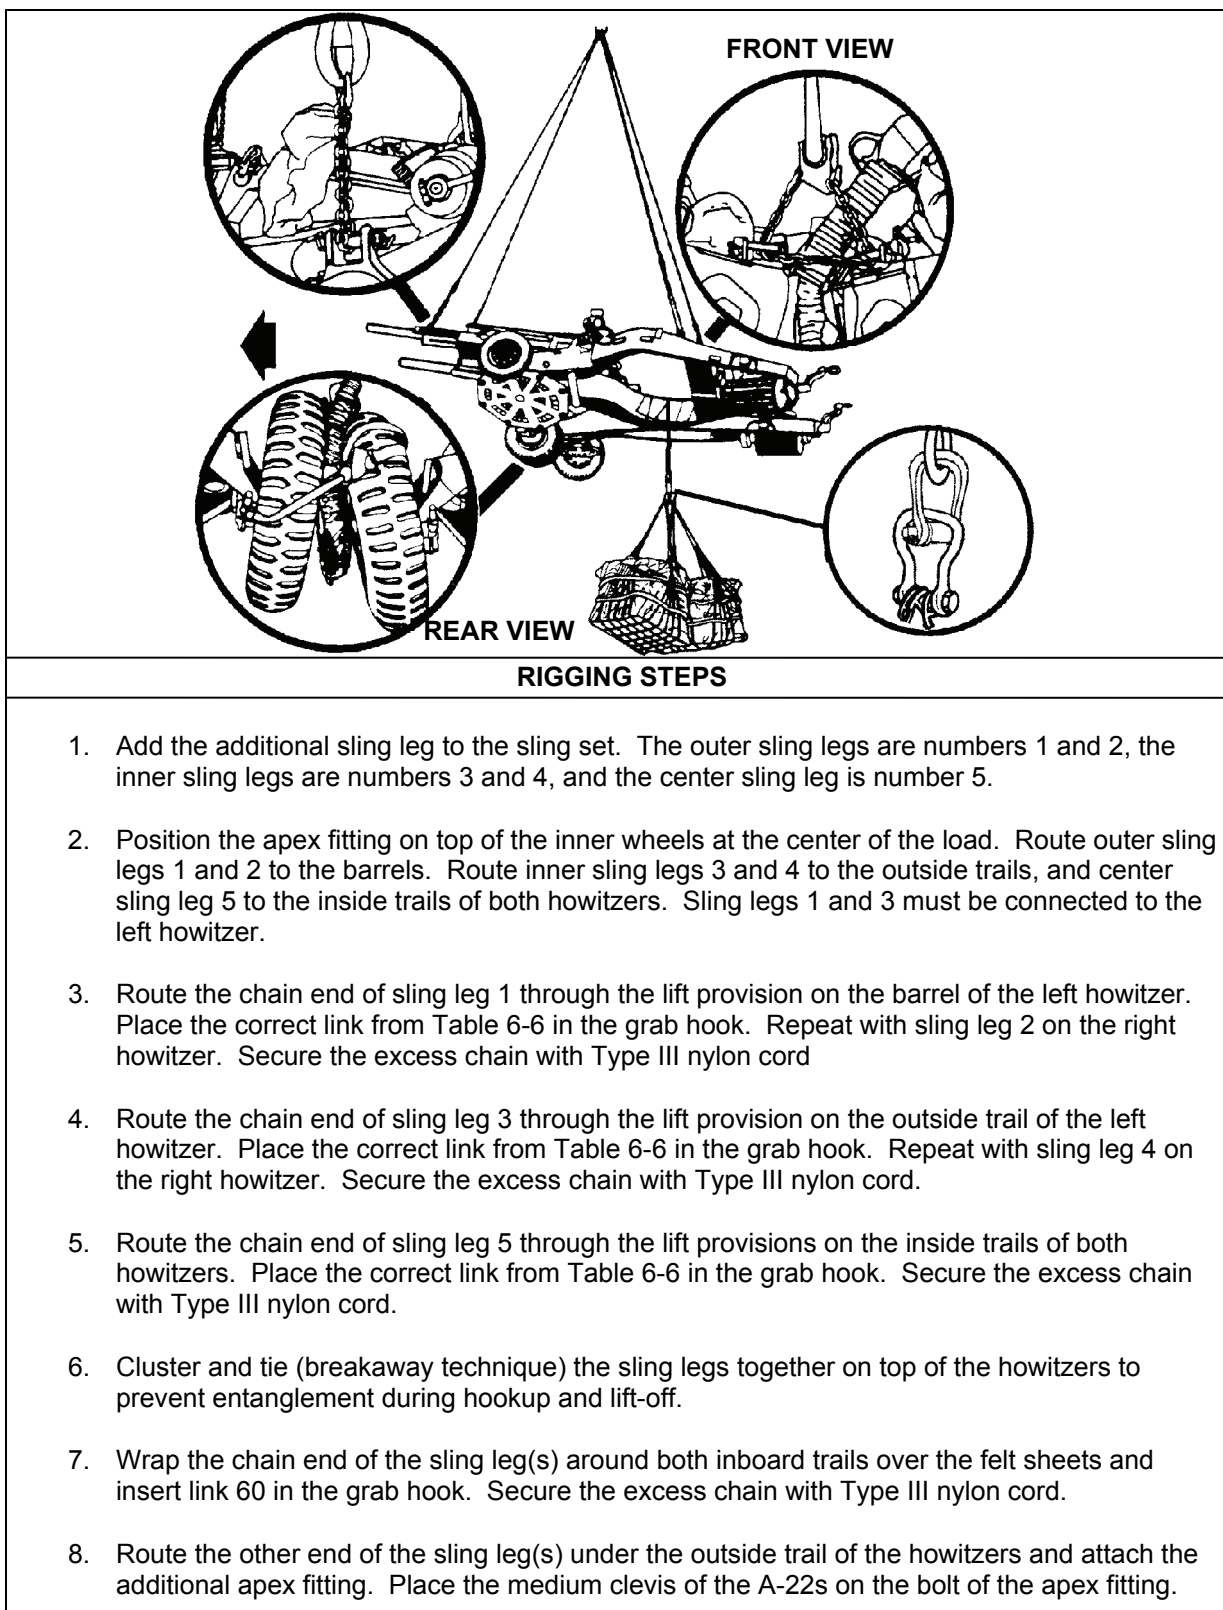

Figure 6-6. Two M102 105-MM Howitzers with One, Two, or Three A-22 Cargo Bags
- **Rigging.** Rig the load according to the steps in Figure 6-6.